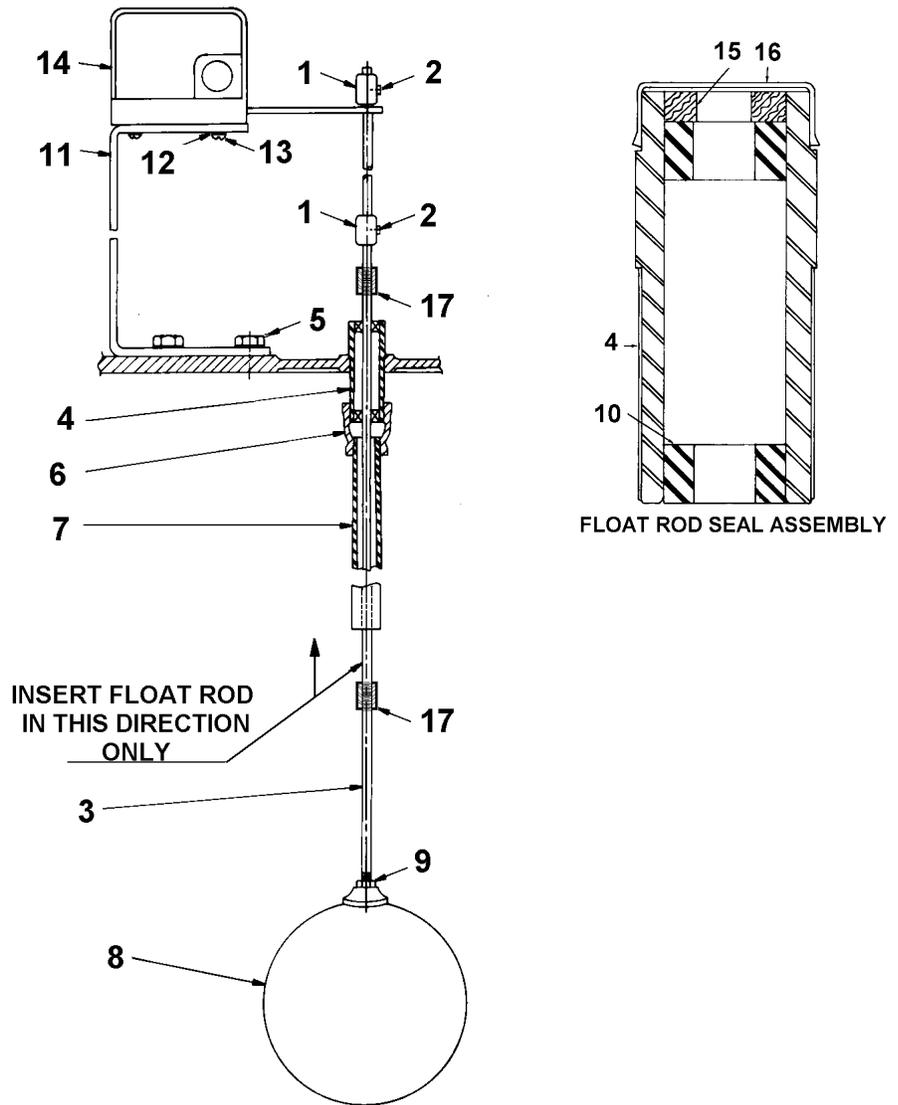

Figure 3. Float Rod Installation
1. Fasten the switch stand assembly (11, figure 3) to the floor plate or basin cover over the hole provided.
2. Insert the top section of bare float rod (3).
3. Slip one button (1) onto the top of the rod, insert the top end of the rod up through the float switch (14) lever eye and suspend the rod on the seal assembly by fixing this button (1) temporarily on the float rod just above the float rod seal.
FLOAT ROD SEAL HOUSING: At approximately weekly intervals, lubricate the float rod seal assembly (figure 3) felt washer saturating it with SAE 30 oil.